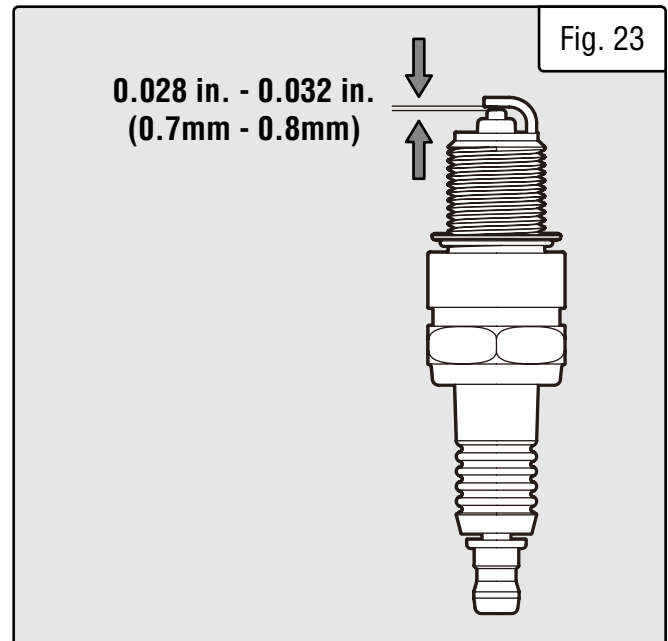

Fig. 23
6. Measure the plug gap with a wire gauge (Fig. 23). The gap should be 0.7mm to 0.8mm (0.028 in. to 0.032 in.). Carefully adjust the gap if necessary.